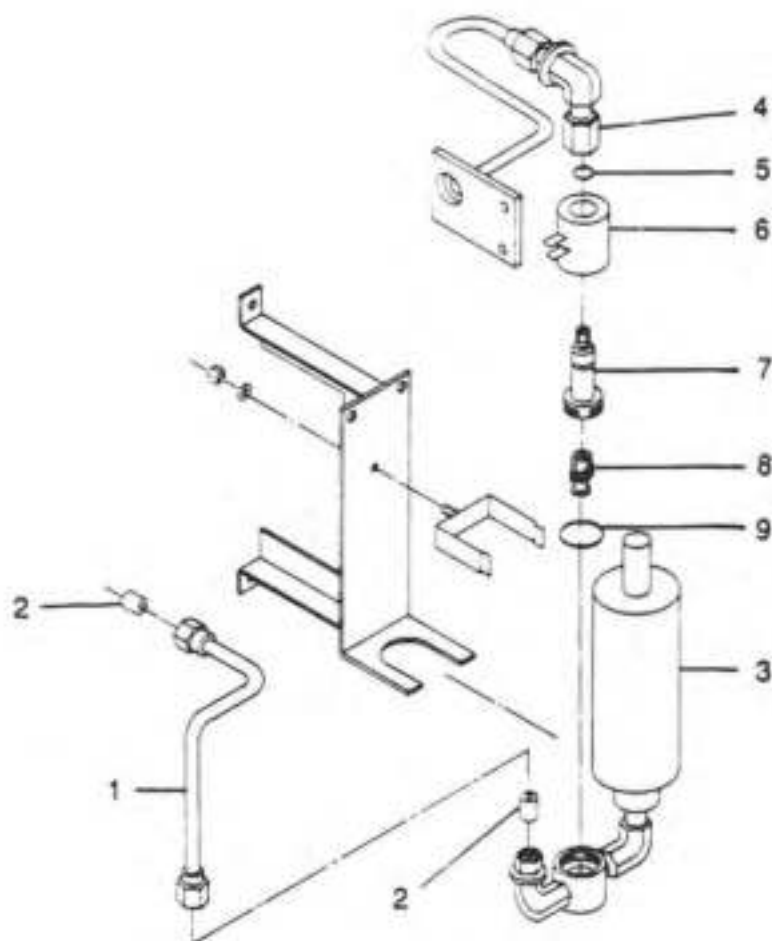

Figure 5-6. Calibrated Leak Exploded View
5-3-10 Disassembly of Calibrated Leak (Refer to Figure 5-6)
- 3 Assemble a new rubber washer (15), and O-ring (14), then insert the gross leak assembly (13) into its appropriate hole as shown in Figure 5-6. The O-ring is gently pushed in similar to a thermocouple gauge and the other end is tightened with a 9/16 wrench.
- 4 Assemble a new O-ring (10) and washer (11), then install the thermocouple gauge (9) by gently pushing and twisting the gauge body into its appropriate hole.
- a Place the valve spring (6) on the valve actuator (5).
- b Place a new valve actuator O-ring (8) in the vacuum manifold (1).
- c Screw the valve actuator (5) into the vacuum manifold (1) with the valve spring (6) and valve seat (7) in place as shown in Figure 5-6. Tighten the valve body with the spanner or with a screwdriver for the smaller valves.
- d Place the coil (4) on the valve actuator (5), add the washer (3), then tighten the coil holding nut (2) snugly on the top of the valve.
5-3-14 Assembly of Calibrated Leak (Figure 5-6)